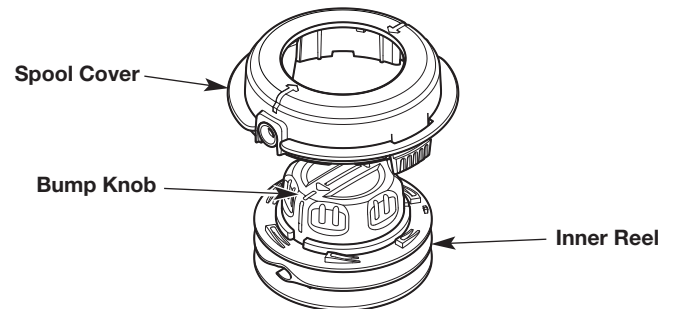

Fig. 9
2. If necessary, assemble the bump head: Insert the bump knob and inner reel into the spool cover (Fig. 9). Hold the two pieces together.